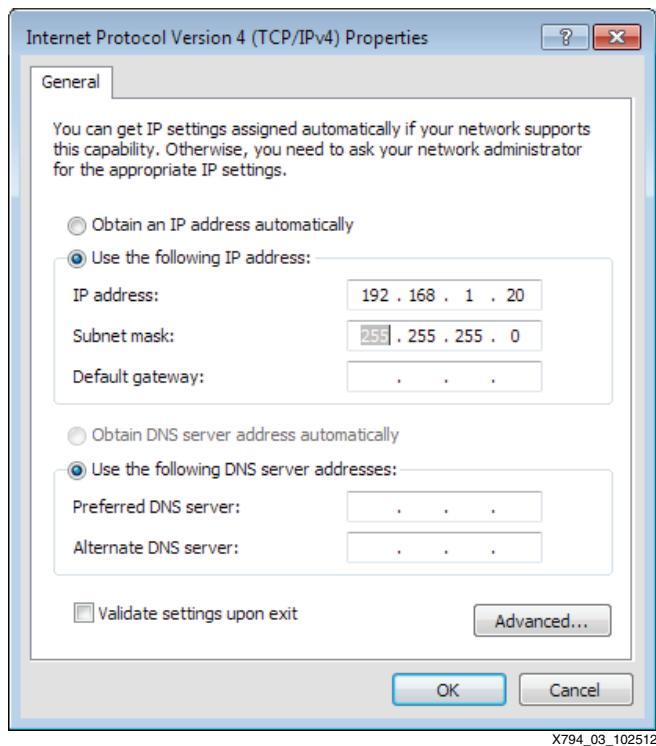

Figure 3: Host Computer IP Address Configuration Dialog Box
9. Click the **Subnet mask:** field and ensure that it is populated with 255.255.255.0. The dialog box should appear similar to Figure 3.